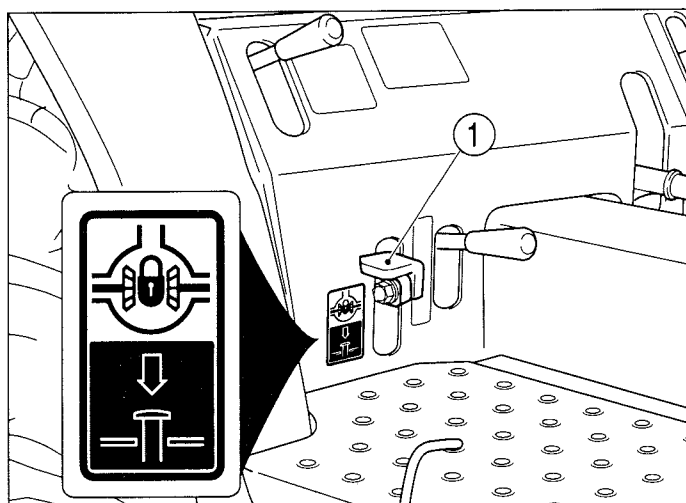

FIG. 42
FIG. 42: Differential lock pedal (1) should only be depressed when required as steering ability is greatly reduced. To engage the differential lock, depress the clutch pedal and allow all rear wheel movement to stop. Depress the lock pedal and slowly engage the clutch. To disengage the differential lock, depress the clutch pedal. The Differential Lock pedal should normally return to the “off” position.